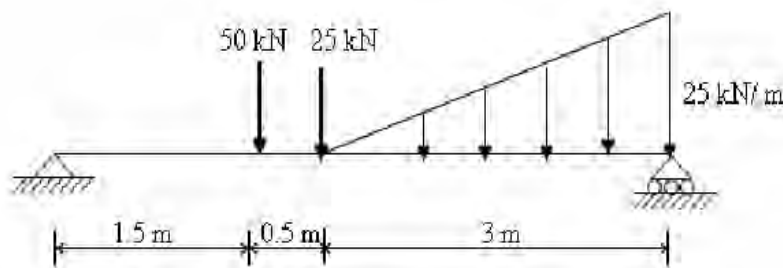

Figure 4
4. Draw the shear force and bending moment diagrams for a simply supported beam loaded as shown in figure 4. Also find and show the magnitude of maximum bending moment. [15]